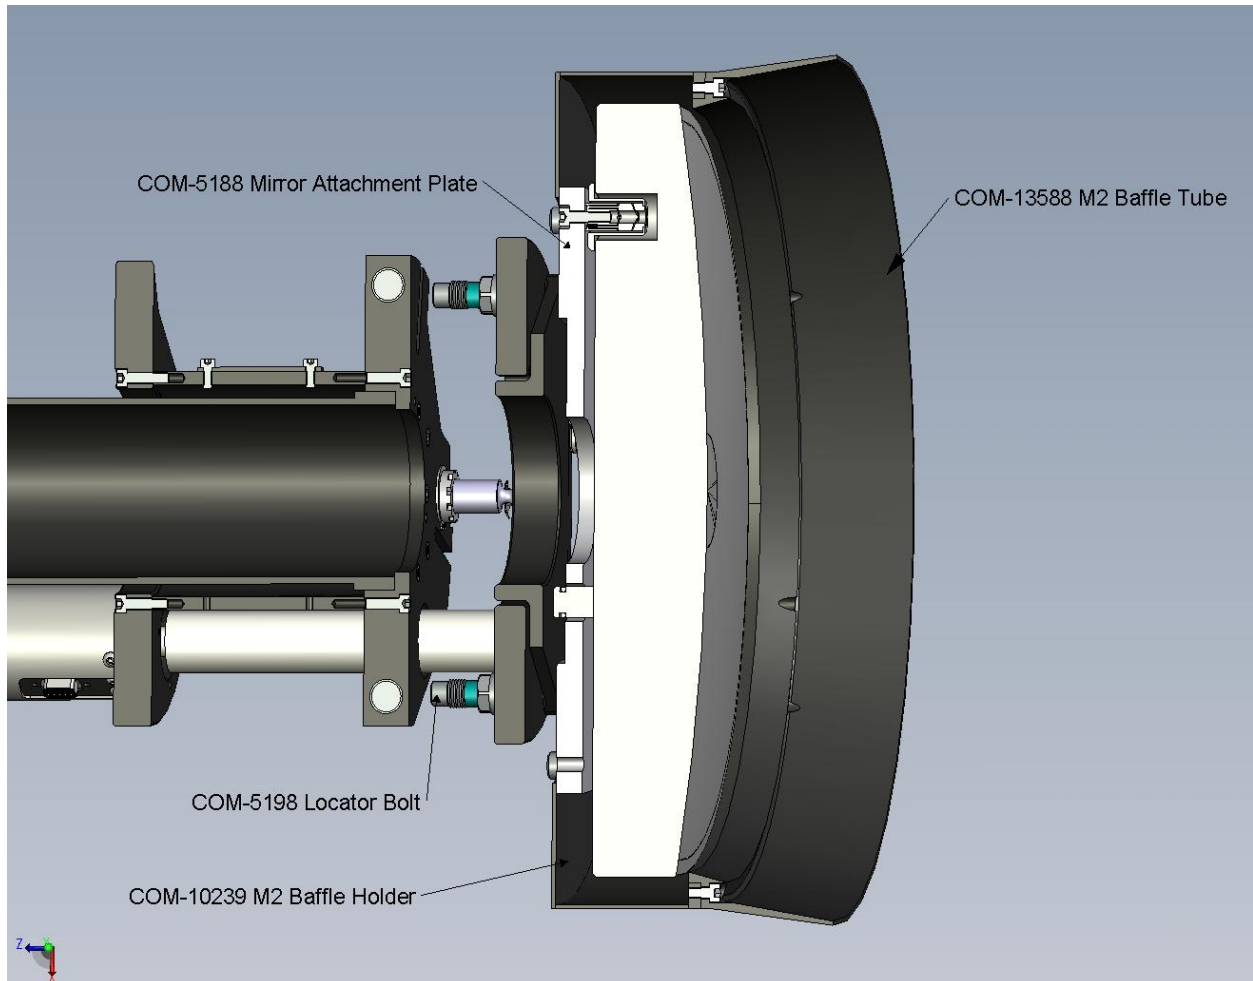

Figure 1 M2 Assembly
5. Note the orientation markings on the M2 Assembly and hold it in position in front of the M2 Focus Stage while a second person inserts and tightens the three Locator Bolts (COM-5198), see Figure 1.